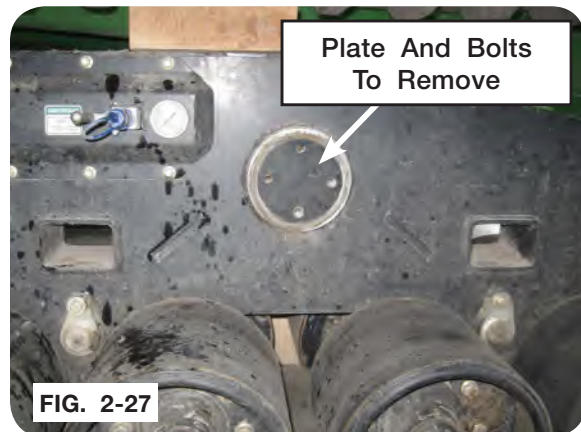

FIG. 2-27
2. Remove the four bolts and retainer plate that attaches the track assembly to the cart. Retain the bolts and plate for later use (FIG. 2-27).